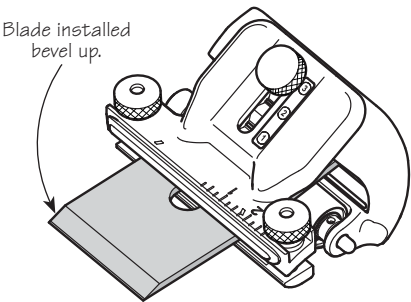

Figure 14: Configuration for honing back bevels.
To create back-bevel angles of 10° or higher, simply set the blade carrier in the ③ (green) back-bevel configuration and the blade registration stop on the ③ (green) scale. Install the blade with the primary bevel up (as shown in **Figure 14**), and the micro-bevel knob in the 12 o'clock position.